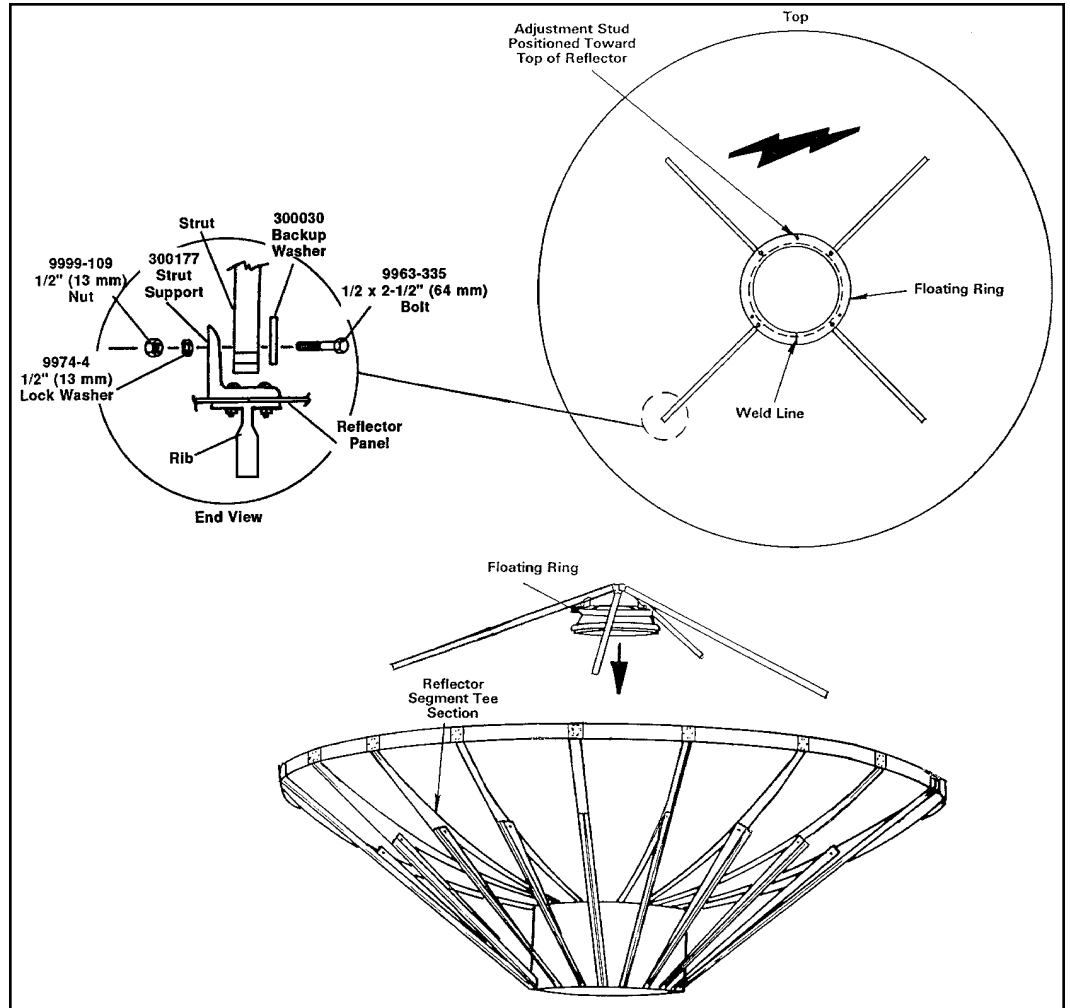

Figure 35
**Step 7** Refer to Figure 35. Raise preassembled subreflector subassembly and strut assembly and attach to subreflector supports as shown.